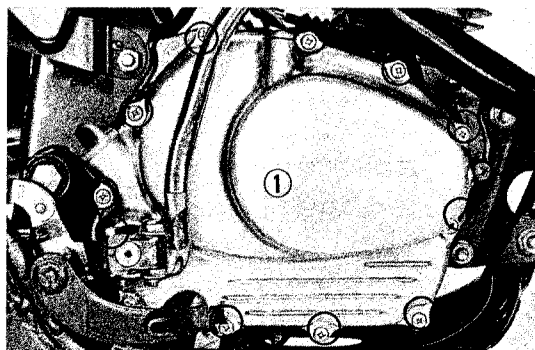

Fig. 3 ① Right crankcase cover
- 4) Remove the right crankcase cover. (Fig. 3)